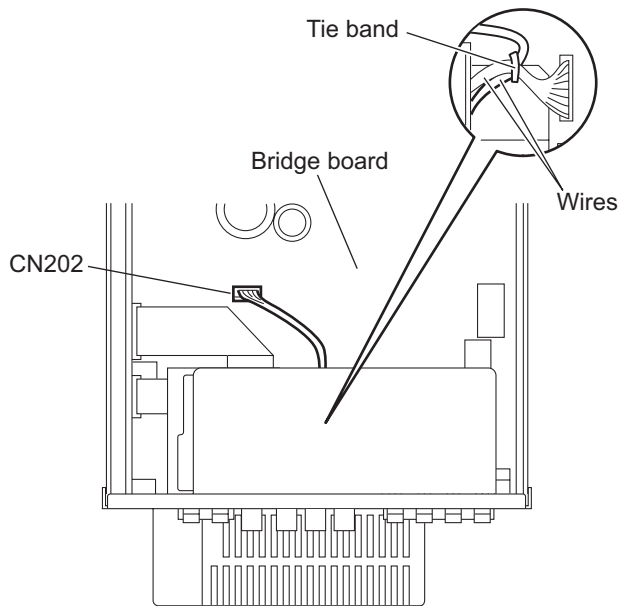

Fig.10
**(See Figs.10, 11, 12-1 and 12-2)**
(1) From the top side of the main body, remove the tie band bundling the wires. (See Fig.10.)
After reassembling, bundle the wires with the new tie band as before. (See Fig.10.)
- (2) Disconnect the wire from the connector **CN202** on the bridge board. (See Fig.10.)